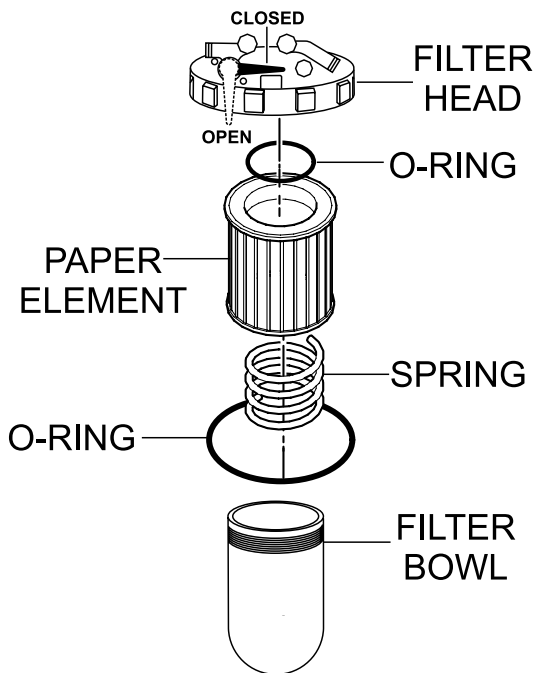

Figure 22. Fuel Filter/Water Separator
2. Place fuel water separator lever (Figure 22) in the **CLOSED** position.
6. Return fuel water separator lever (Figure 22) back to the **OPEN** position.